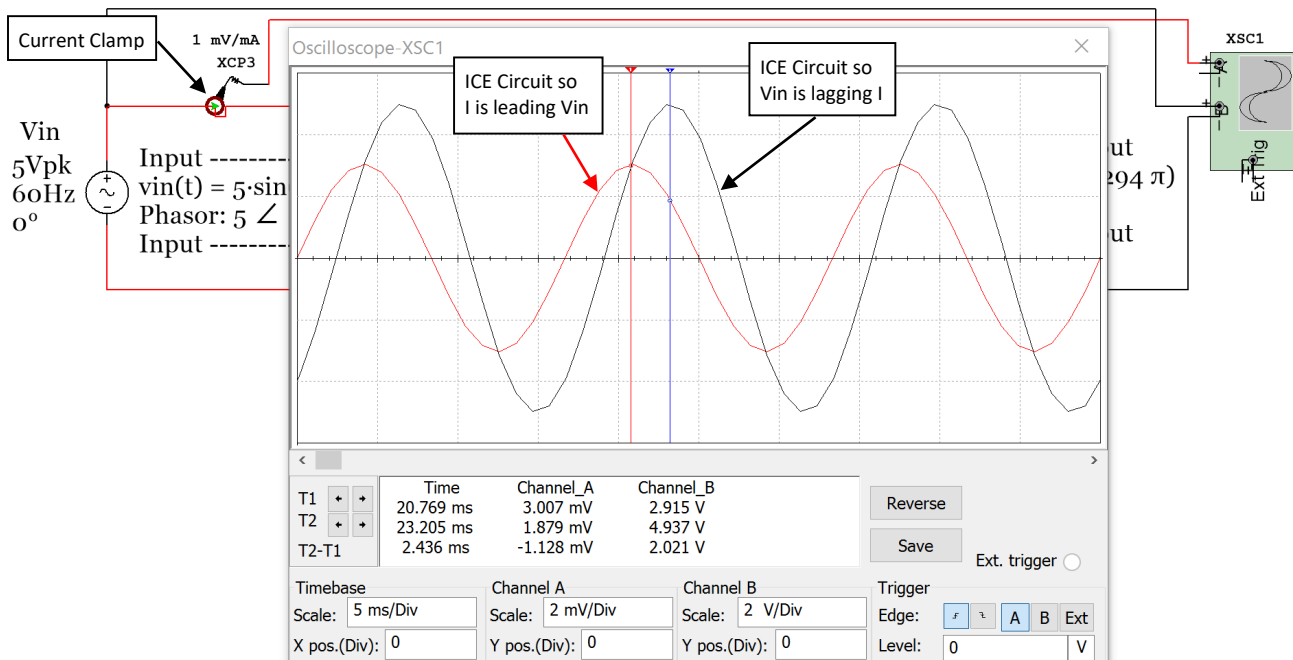
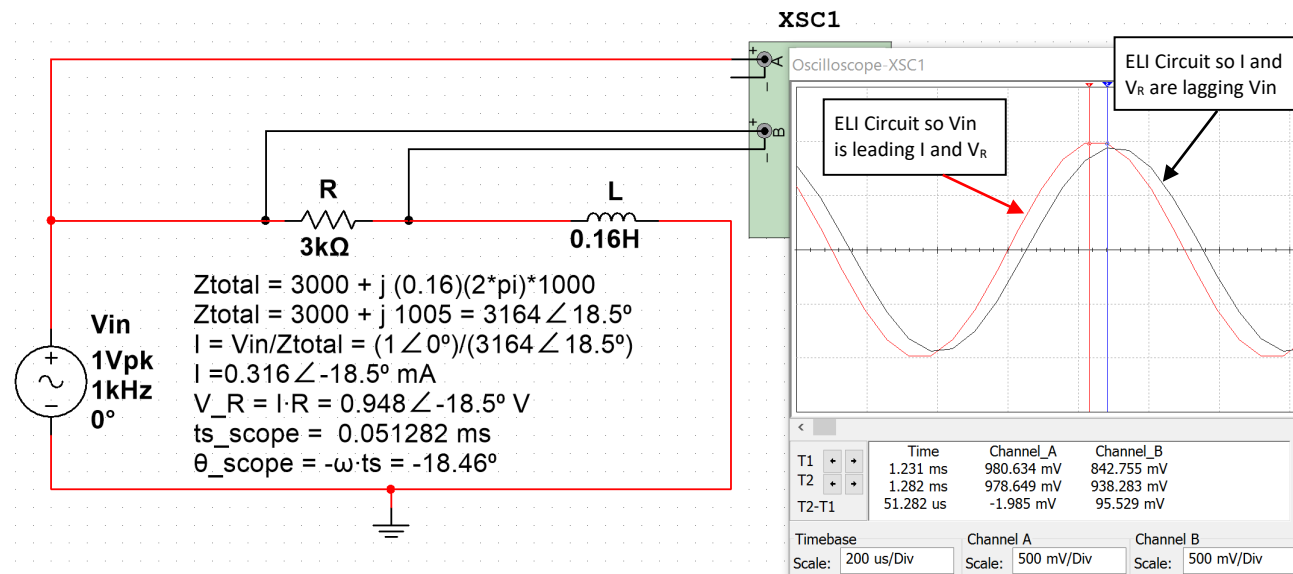

Figure 3.3: Input Voltage and Current scope plot of circuit in Example 3.1.
Figure 3.4: Circuit and Scope plot for Example 3.2.  $V_{in}$  is the Red sinusoid and  $V_R$  is the black sinusoid.
For the circuit in example 3.1 the input voltage and current are plotted in Figure 3.3. The current can be plotted on a scope using the current clamp as shown in Figure 3.3. The current clamp conversion is shown in this example to be 1 mV/mA so the peak current reading of the red current waveform is 3.007 mV, which equates to 3.007 mA. The next example is an RLC circuit. Notice how in the calculations in Figure 3.4 that the current and  $V_R$  both have a phase angle of  $-18.5^\circ$ . This means they are “in phase” with each other.
Example 3.2) Solve the circuit in Figure 3.4 for  $V_R$  and verify it with the Multisim oscilloscope.
The calculations for Example 3.2 are shown in Figure 3.4. The following link can be used to verify the total impedance calculation in a RLC circuit: <http://hyperphysics.phy-astr.gsu.edu/hbase/electric/powerac.html>
**Note:** If the minus sign of the Multisim oscilloscope is left disconnected then it is automatically assumed to be ground. Therefore, only the + side of channel A is connected in Figure 3.4. If you want to take a scope measurement across a component that is not connected to ground (i.e.  $v_R$  in Figure 3.4) then you connect the two sides of the component to the + and – side of the scope channel. Most oscilloscopes in the real world require that the minus sign (or black clip) be connected to ground. For example, Figure 3.6 shows a sinusoid that is connected to channel 1 of a Rigol DS1074 oscilloscope. This scope has 4 channels. Each channel has a probe that has a black clip that can only be connected to ground as shown in Figure 3.5. If you want to take a measurement across a component that is NOT connected to ground (i.e. differential measurement) then you have to connect 2 different probes to the two sides of the component and use the Math subtraction function to determine the voltage across the component.